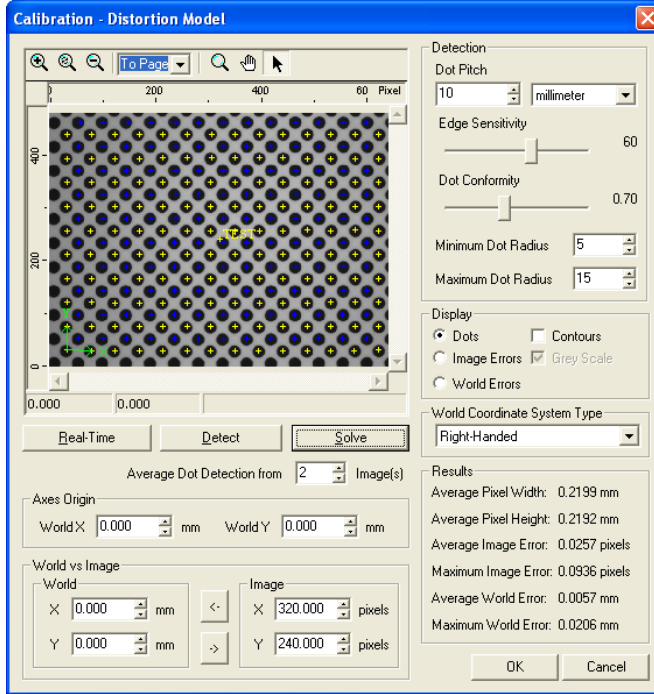

Figure 46 Distortion Model Calibration Dialog
5. Go to the **Calibration** sub-panel. Select **Distortion Model**. Click **Show Calibration Dialog**. The **Distortion Model** dialog is displayed (see Figure 46).